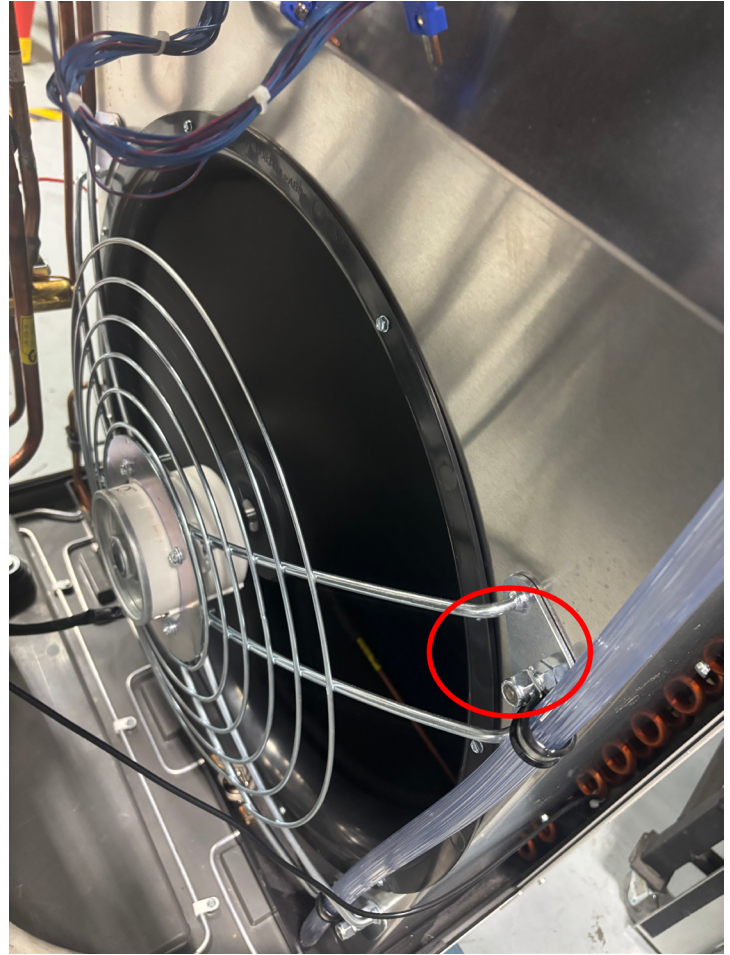

Figure 436 (Outdoor Fan)
4. Remove nuts from fan motor mount at 4 places. See Figure 436.